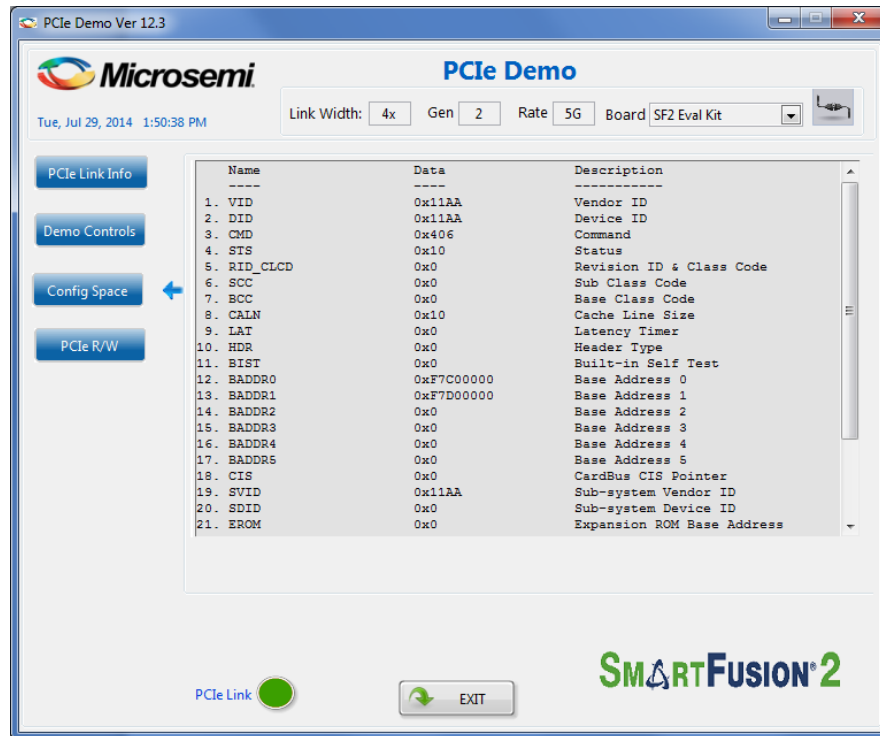

Figure 65 Configuration Space
13. Click **Config Space** to read details about the PCIe configuration space. Figure 65 shows the PCIe configuration space.